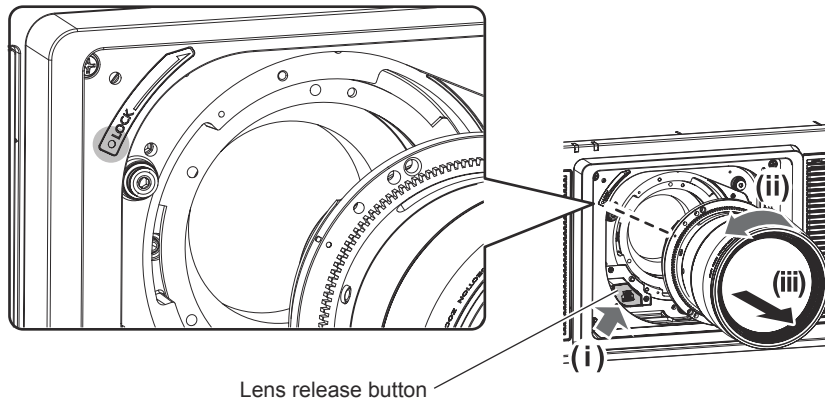

Fig. 1
- 2) **Remove the projection lens by turning it counterclockwise while pressing the lens release button. (Fig. 1)**